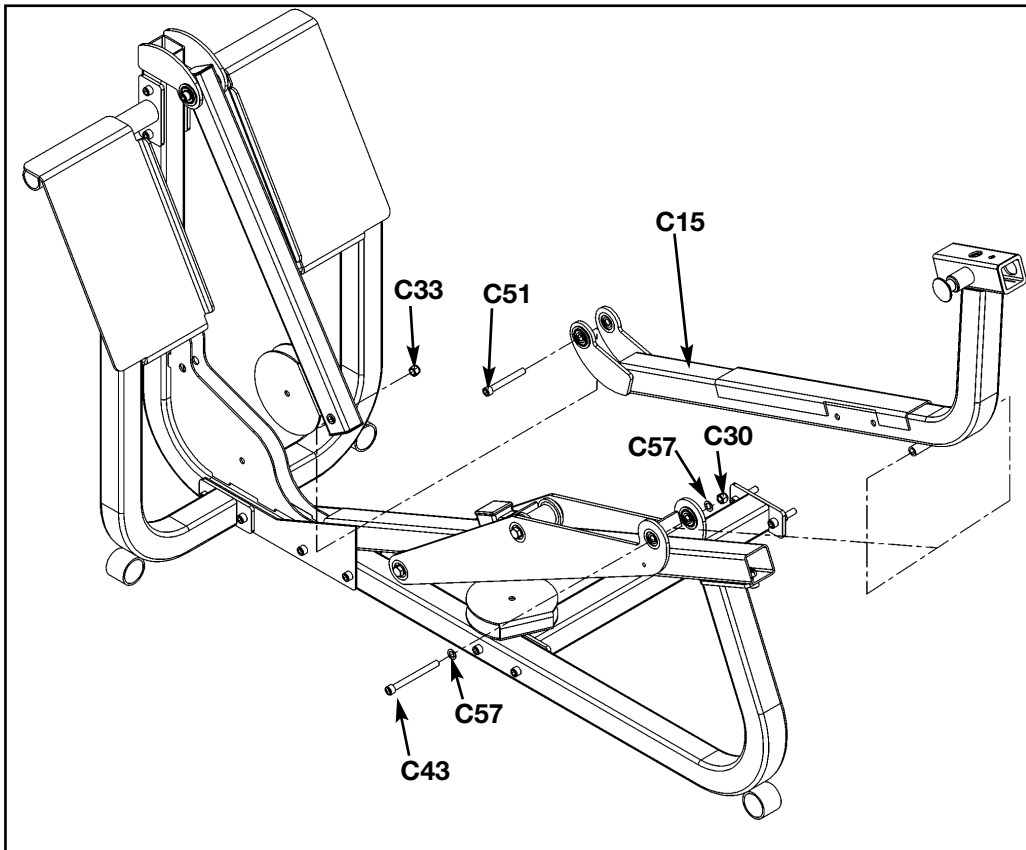

Figure 11
**7. Install seat frame** (see steps 7A - 7B and Figure 11).
- B.** Install seat frame (#C15) as shown in Figure 11 using one SHCS .375-16 x 3.25 (#C51), one nylon locknut .375-16 (#C33) and two internal tooth lockwashers (#C57) for the end connecting to the pivot tube. Use one HHCS 10 mm x 110 mm (#C43) to secure the other end of the seat frame.